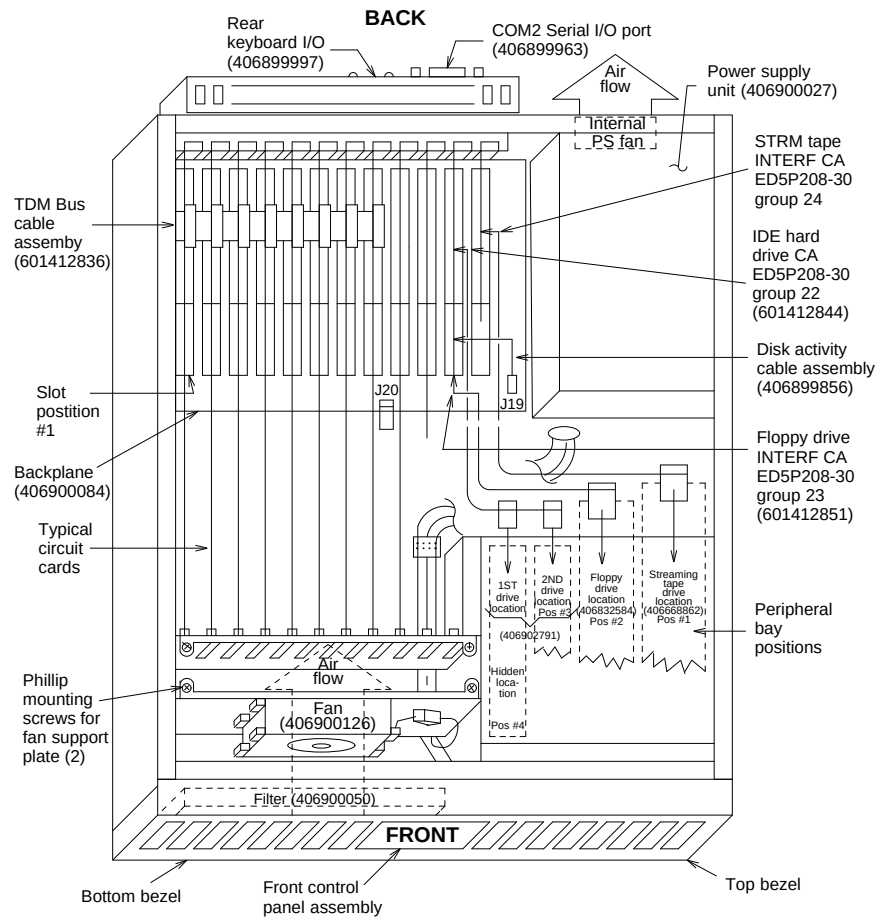

Figure C-2. MAP/40 Internal Layout
Figure C-2 shows the general hardware layout of the replaceable components within the MAP/40.
The MAP/40 is equipped with a fan filter (406900050) designed to remove dust and debris from the air before it circulates inside the chassis. The filter is located behind the bottom bezel, as shown in Figure C-2. Cleaning the filter should be a part of routine maintenance. The filter may be cleaned with warm water, blown dry, and replaced. A packet of five new filters are available if the current one becomes exceptionally dirty or damaged.
The MAP/40 contains two fans that provide forced-air cooling inside the unit. The first fan (406900126) is located in front of the card cage, behind the front cover panel. It is mounted on a support plate to force airflow through the MAP/40 chassis, across the circuit cards as illustrated in Figure C-2.
9. Remove the two Phillips head screws that hold the fan unit in position as shown in Figure C-2.
1. Before replacing the card cage fan, locate and note the air-flow/blade rotation direction indicators to ensure that the fan is properly mounted. Install the new fan to the support plate using the four Phillips head machine screws, with the exhaust air traveling through the mounting plate hole towards the card cage area, as shown in Figure C-2.
The MAP/40 contains a number of circuit cards that provide various functions for the system. These cards include video controls, peripheral controls, communication controls, CPU, analog Tip/Ring and digital T1 cards, located in the circuit card cage in backplane slot positions 1 through 12, as shown in Figure C-2. The instructions listed here do not address the procedures involved with *adding* cards, only replacing them. Circuit cards are placed in the backplane in accordance with the MAP/40 System Configuration program. The Configuration Program is run to map each card to an individual backplane slot position. When replacing a card, be sure to re-insert it into the exact slot from which it was removed.